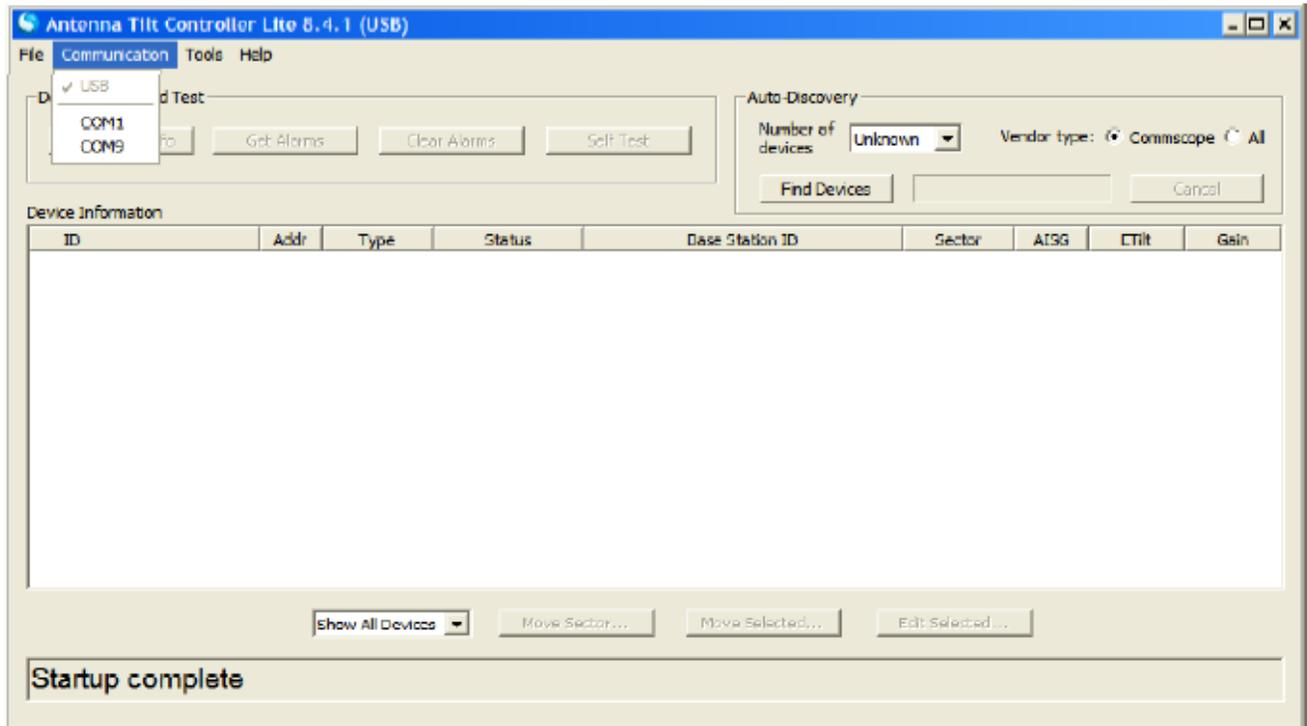

Figure 2-10. USB Port Connection Shown.
4. Select **Communication** from the main menu to view the communication port used for the connection. See Figures 2-10 and 2-11 for examples.